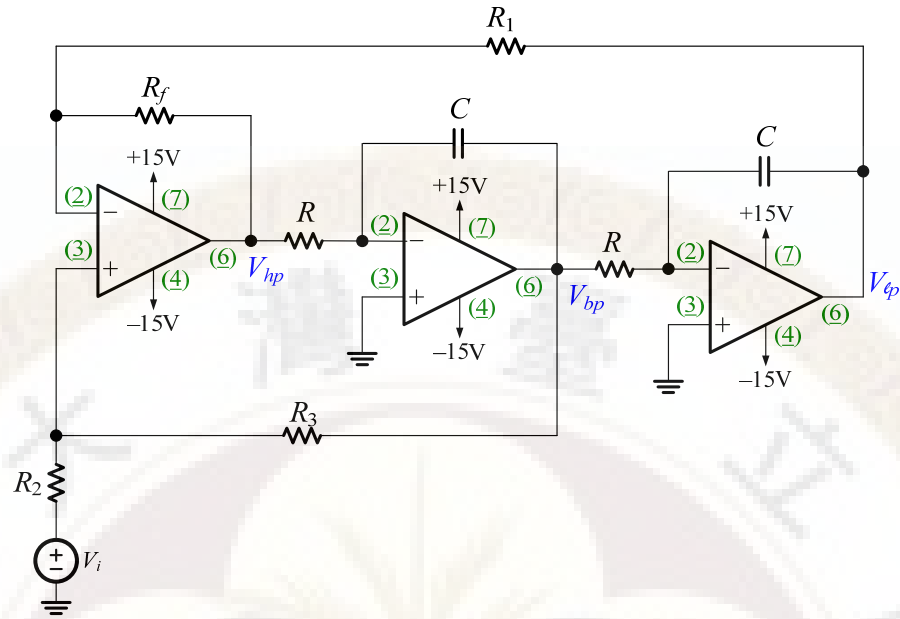

Fig. 1 Two-Integral-Loop Active Filter
- (1) Employ the designed value from problem 1(a) in PR for C_1 , C_2 , R_3 , R_f to the circuit in Fig. 1.
- (2) Apply the input small signal V_i to the breadboard by using function generator to generate $v_i = v_{ac} \times \sin(2\pi ft)$, $2v_{ac} = 1V_{(p-p)}$.
- (3) Make sure that the v_i is measured from the breadboard by using the probe from **CH1** in oscilloscope.
- (4) Keep the previous adjustment of V_i constantly, and do not adjust the amplitude tuner in function generator any further.
- (5) Oscilloscope ► **YT mode**.
- (6) Oscilloscope ► Observe $V_{i(p-p)}$ in **CH1** and $V_{o(p-p)}$ in **CH2**.
- (7) Record the voltage gain $A_0 = \frac{V_{bp}}{V_i}$ ($V_{bp}/V_i \sim 10 \sim 15$) and $f = f_0$ represents central frequency of the band-pass filter)
- (8) Record the frequency $f_{L3dB} = \text{Hz}$, $f_{H3dB} = \text{Hz}$, $f_0 = \text{Hz}$.
- (9) Change the frequency of input voltage source, and record the input and output voltage shown in oscilloscope to the following table.
- (10) Employ the designed value from problem 1(b) in PR for C_1 , C_2 , R_3 , R_f to the circuit in Fig. 1.
- (11) Keep the previous adjustment of V_i constantly, and do not adjust the amplitude tuner in function generator any further.
- (12) Record the voltage gain $A_M = \frac{V/V}{V_{lp}/V_i \sim 1}$ as $f < f_{L3dB}$.
- (13) Record the frequency $f_{L3dB} = \text{_____ Hz}$,
- (14) Change the frequency of input voltage source, and record the input and output voltage shown in oscilloscope to the following table.